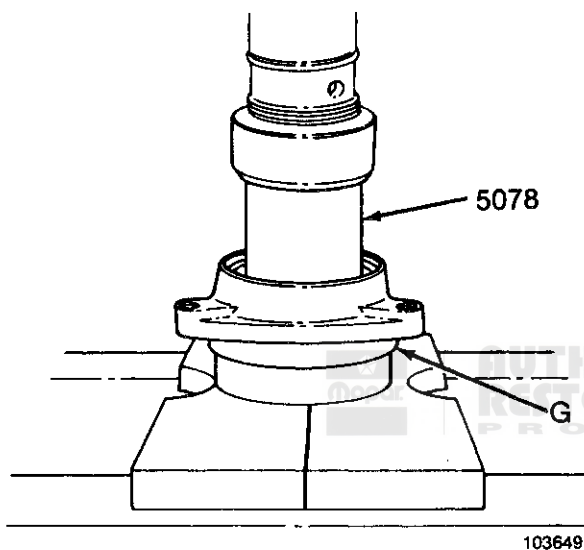

Fig. 8
9. On Jeep models, press the inner bearing seal (G), from the hub using the inner race and bearing installer 5078 (Fig. 8).